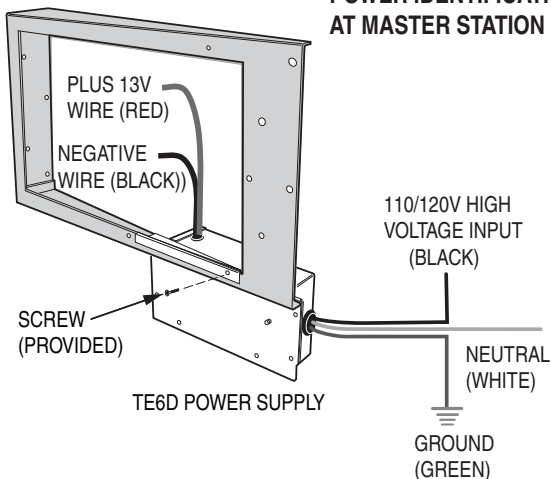

Figure 7 - TE6D Power Supply Wiring
7. Pull the Red and Black low voltage wires out of the top of the TE6D for later connection to the Master Station. Re-assemble the TE6D housing with the provided screws (See Figure 7).
8. Hook the power supply onto the flange of the VMC1MB and attach it with screw provided (See Figure 7).